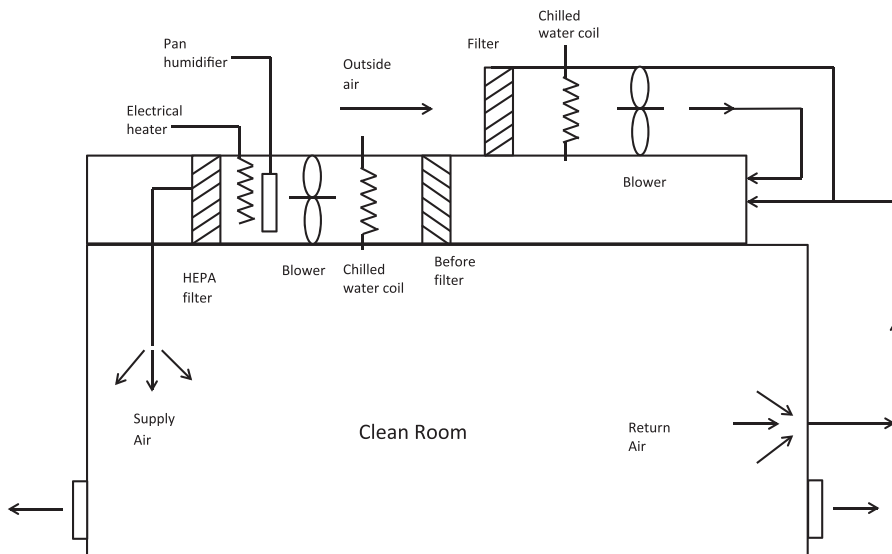

Figure 1: Schematic of a typical clean room.
Schematic diagram of a typical air conditioning (AC) system of a clean room is shown in figure 1. Chilled water from a centralised AC plant is used to chill the air and in turn to condense the moisture present. Pan humidifier and electrical heaters are used to maintain the required relative humidity (RH). Fresh ambient air is also chilled and added to meet the ventilation air requirement and the excess air gets out through small openings in the clean room. The air conditioned space is provided with false ceiling and chilled air enters through supply grille and there is separate duct for return air. The temperature of room air is controlled by the actuation of modulating valve to regulate the chilled water flow. Whenever the required conditions (say 23 ± 1 OC temperature